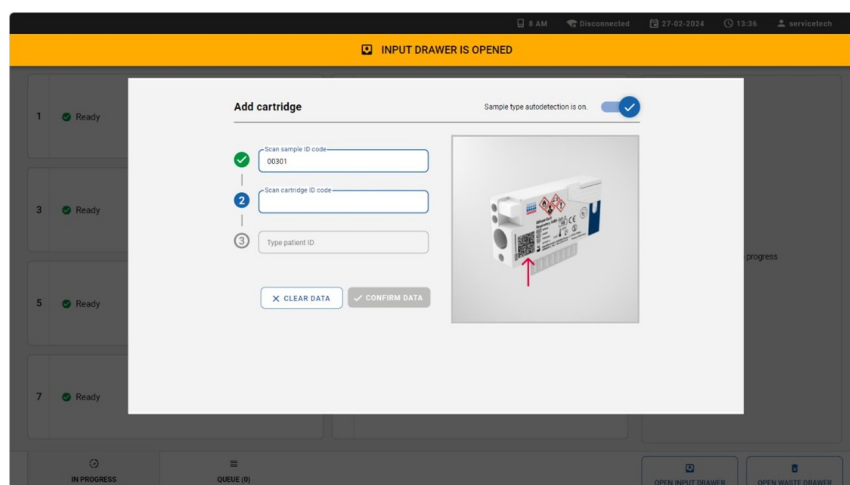

Figure 15. Scan cartridge ID screen.
2. Scan the cartridge ID barcode. The QIAstat-Dx Rise automatically recognizes the assay to be run, based on the QIAstat-Dx assay cartridge barcode (Figure 15).